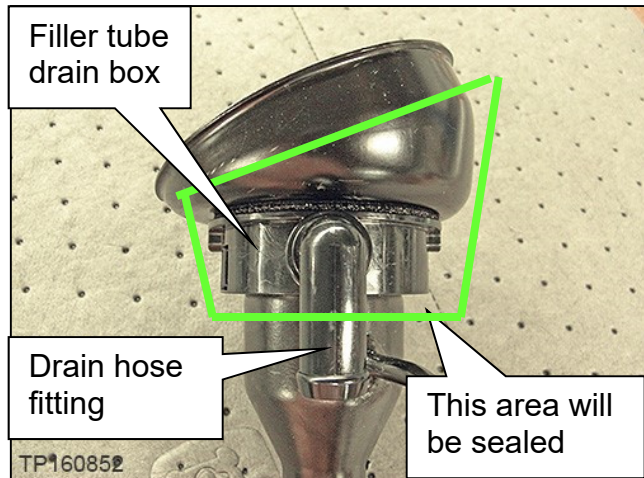

Figure 2
3. Wrap EPT foam (see **PARTS INFORMATION** on page 6) around the top of the new fuel filler tube where indicated in Figure 2.